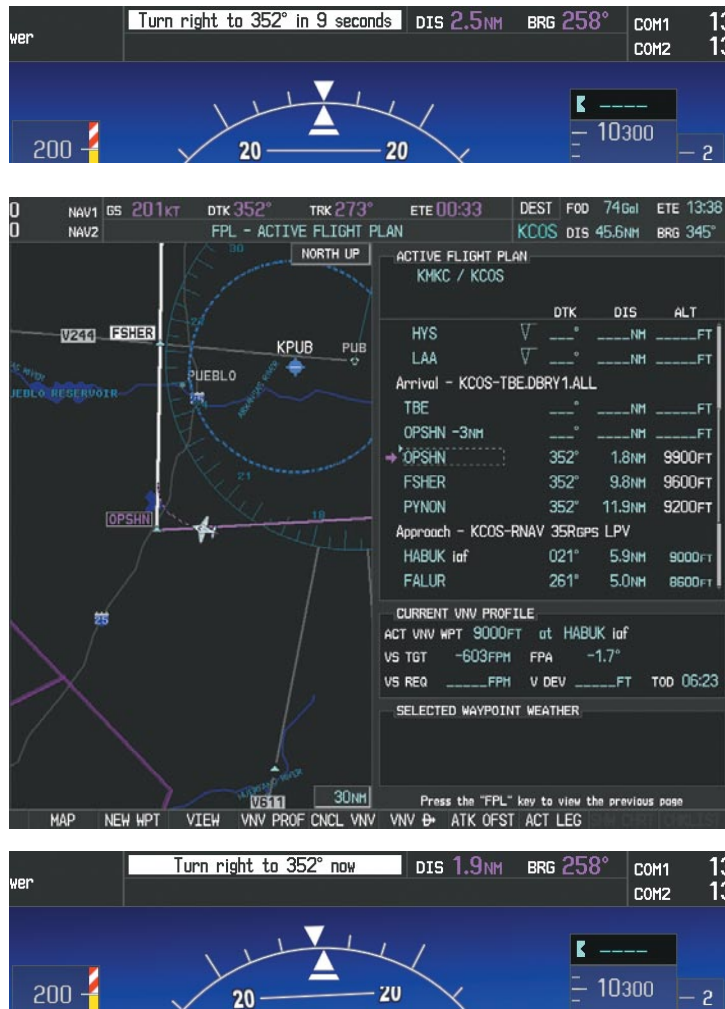

Figure 5-136 Turn to intercept OPSHN to FSHER Leg
- 18) The aircraft is approaching OPSHN. The upcoming turn and next heading are announced at the top left of the PFD as seen in Figure 5-136. Initiate the turn and maneuver the aircraft on a track through the turn radius to intercept the magenta line for the OPSHN to FSHER leg and center the CDI.